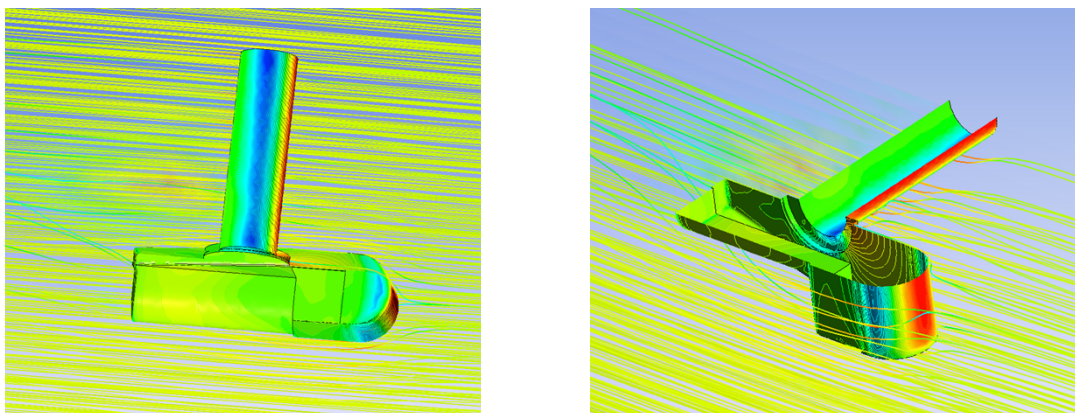
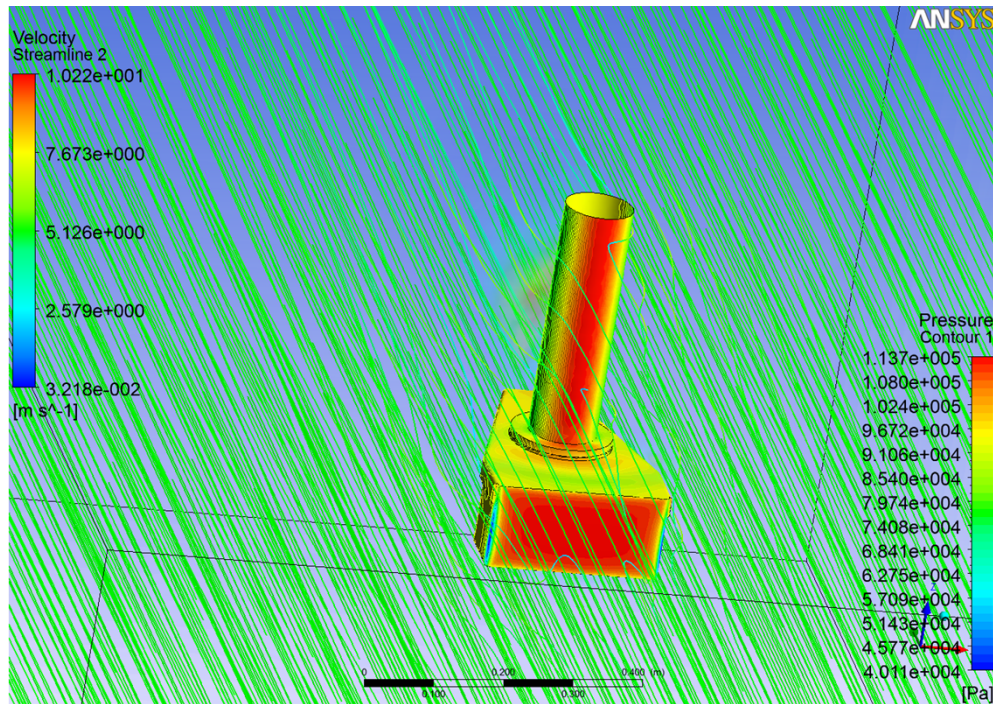
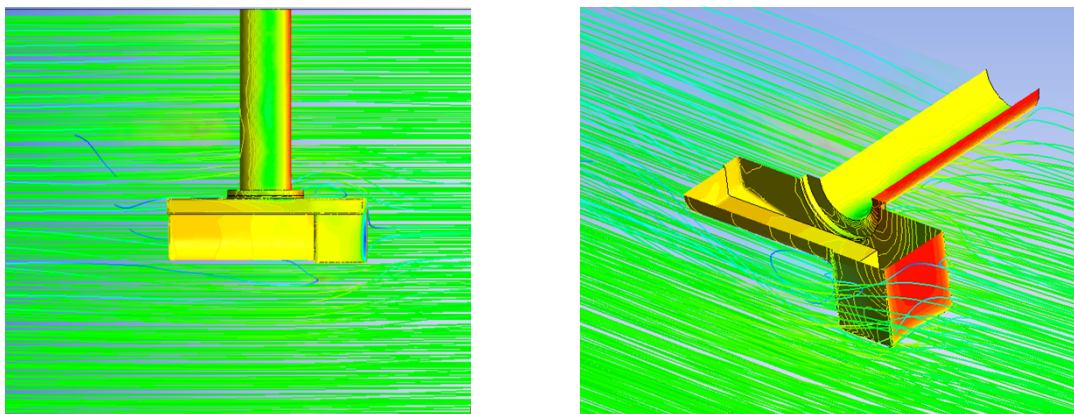

Figure 42: Flow around Single T20 (shallow) with Fairing, Cross Section of Symmetry Plane
Figure 43: Flow at 10 knots around Single T20 (shallow) without Fairing
Figure 44: Flow around Single T20 (shallow) without Fairing, Cross Section of Symmetry Plane
- T20 single head (shallow¹⁷) **with** front fairing (*Figure 41* and *Figure 42*) or **without** front fairing (*Figure 43* and *Figure 44*).
Figure 41 illustrates the flow at 10 knots around the T20 single head (shallow) with front fairing. The drag on the pole, sonar head, and bracket is in the region of 490N. The same situation without front fairing is shown in *Figure 43*.
Figure 42 is a cross section of the symmetry plane of the T20 single head (shallow). The front fairing and bracket assure a steady water flow around the receiver and projector. The same situation without front fairing is shown in *Figure 44*.
Figure 43 illustrates the flow at 10 knots around the T20 single head (shallow) without front fairing. The drag on the pole, sonar head, and bracket is in the range of 650N. The same situation with front fairing is shown in Figure 41.
Figure 44 is a cross section of the symmetry plane of the T20 single head (shallow). Without the front fairing the flow is still reasonable, but not as steady as with the fairing in front of the receiver. The same situation with front fairing is shown in Figure 42.